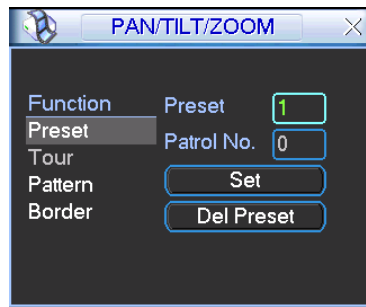
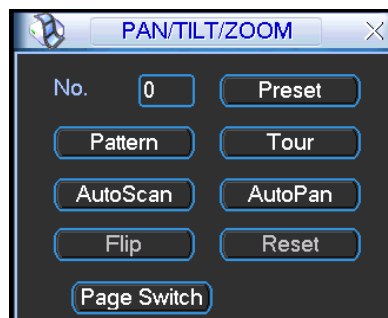
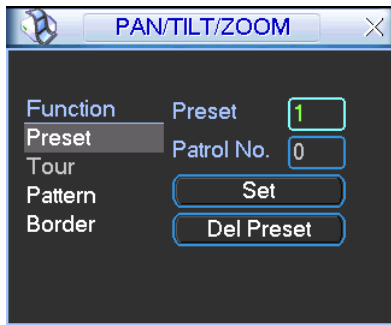

Figure 4-39
Figure 4-40
Figure 4-41
In Figure 4-36, please click the "set" button. The interface is shown as below. See Figure 4-39.
In Figure 4-36, click page switch button, the interface is shown as in Figure 4-40. Here you can activate the following functions:
- The following setups are usually operated in the Figure 4-36, Figure 4-39 and Figure 4-40.
In Figure 4-39, click preset button and input preset number. The interface is shown as in Figure 4-41.
In Figure 4-40, please input preset number in the No. blank, and click preset button.
In Figure 4-39, input patrol (tour) number in the No. blank and click patrol button
In Figure 4-39, click pattern button and then click “begin” button. The interface is shown as in Figure 4-43. Then you can go to Figure 4-36 X to modify zoom, focus, and iris.
In Figure 4-39, input mode value in the No. blank, and click pattern button.
In Figure 4-40, click “Auto Scan” button, the system begins auto scan. Correspondingly, the auto scan button becomes Stop button. Click stop button to terminate scan operation.
In Figure 4-40, click page switch button, you can see an interface is shown as below. See Figure 4-45. Here you can set auxiliary function. The aux value has relation ship with the Aux button of the decoder.